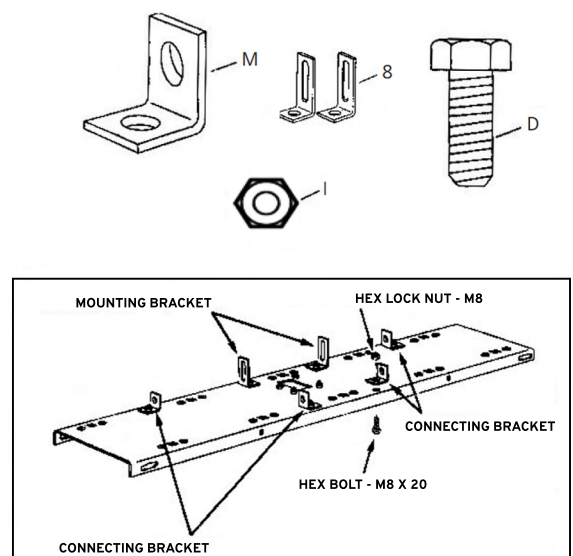

FIGURE 2
a. Turn the base plate over, see Figure 2.
b. Attach the two mounting brackets for the drawbar arms and the two connecting brackets to the underside of the base plate. Secure the brackets in the four round holes at the rear of the base plate with four M8x20 hex bolts and M8 hex lock nuts. Do not tighten yet. See Figure 2.
c. Mount the two connecting brackets into the round holes at the front of the base plate. Use two M8x20 hex bolts and M8 hex nuts. Do not tighten yet. See Figure 2.